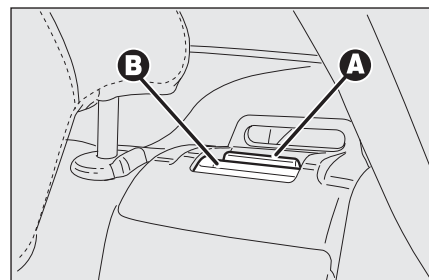

fig. 96
- ☐ lift seat back lever **A**-fig. 96 and tilt the seat back forward. Lever raising is indicated by a "red band" **B**.
*Make sure the backrest is properly secured at both sides ("red bands" **B**-fig. 96 not visible) to prevent it moves forward in the event of sharp braking causing injuries to passengers.*